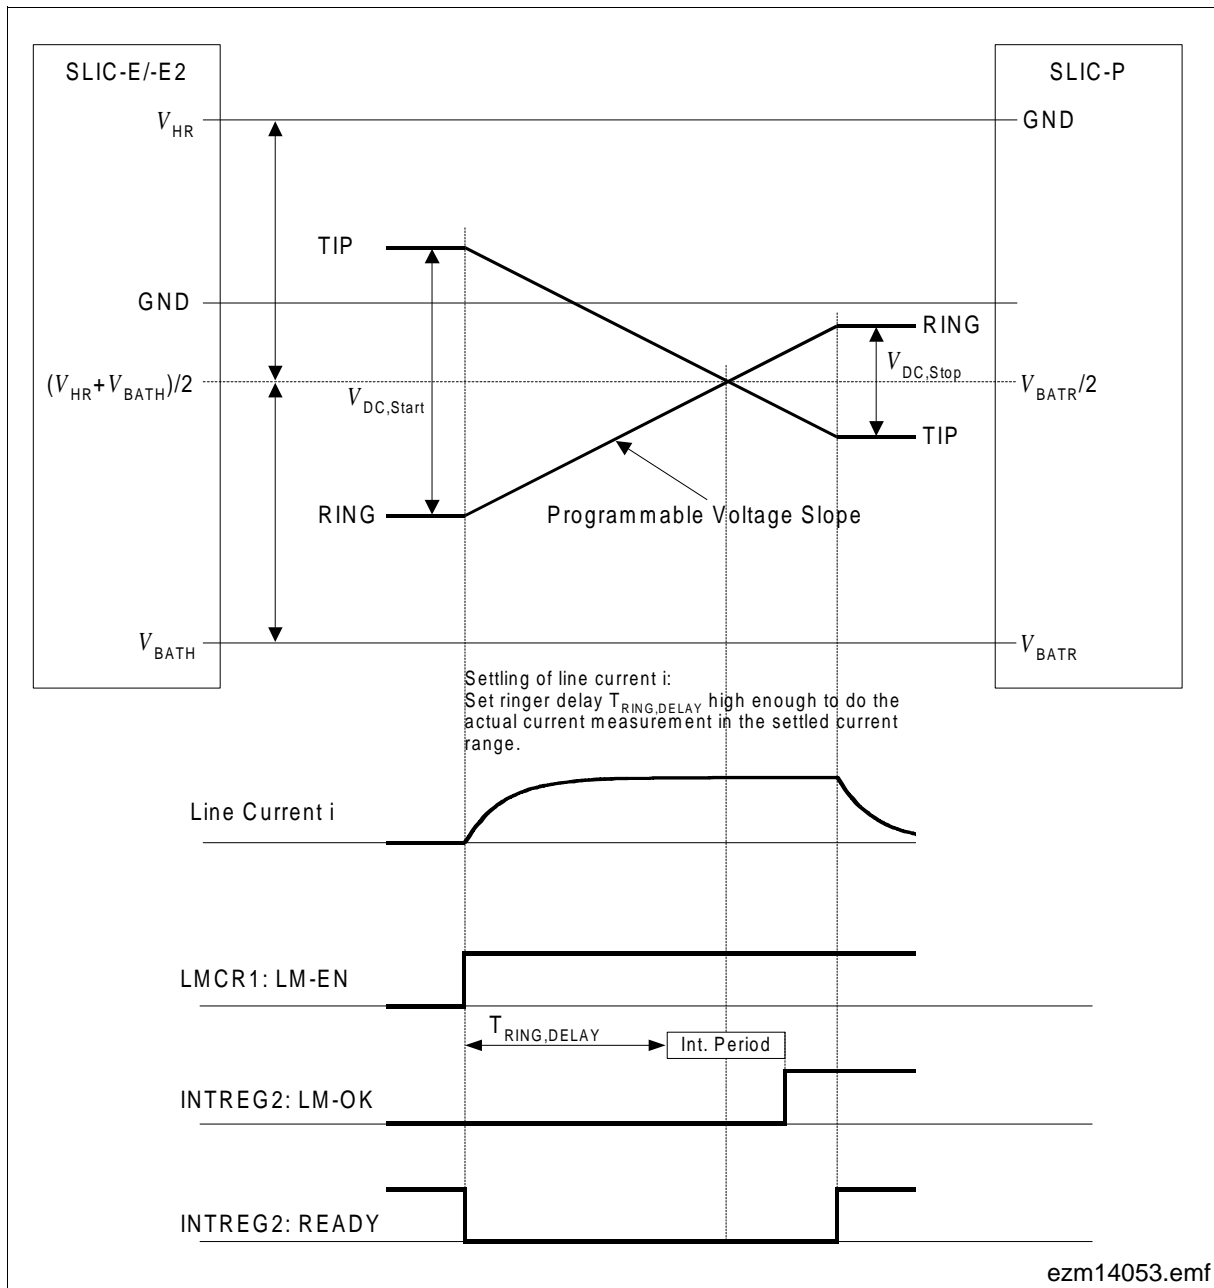

Figure 51 Capacitance Measurement
**Figure 51** shows the voltage ramp and the voltage levels at the Ring and Tip line.